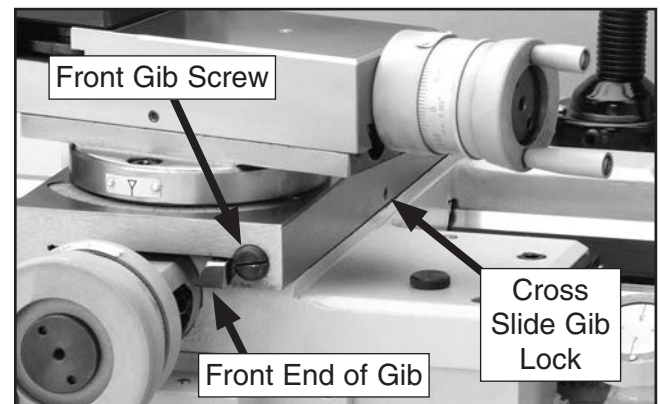

Figure 89. Cross slide gib components.
The cross-slide and compound slide on this lathe each use a long steel wedge called a gib that is positioned between the component and its dovetailed-ways. At the end of each gib is a gib screw one of which is shown in **Figure 89**. The screws at each end of the gib oppose one another to move and hold the gib in a forward or aft position. Depending which direction the gib is moved and held, the space between the sliding ways is increased or decreased to control the rigidity of the cross slide and compound slide.
Tip: The compound and cross slide gibs have a gib lock screw that are shown in **Figures 89–90**. This screw allows the machinist to quickly tighten the locks to hold a gib and slide in a rigid position without having to tighten the gibs. When finished with the need for increased rigidity, the gibs then are quickly unloaded back to their normal state by loosening the screw.
2. Loosen the gib lock shown in **Figure 89**.